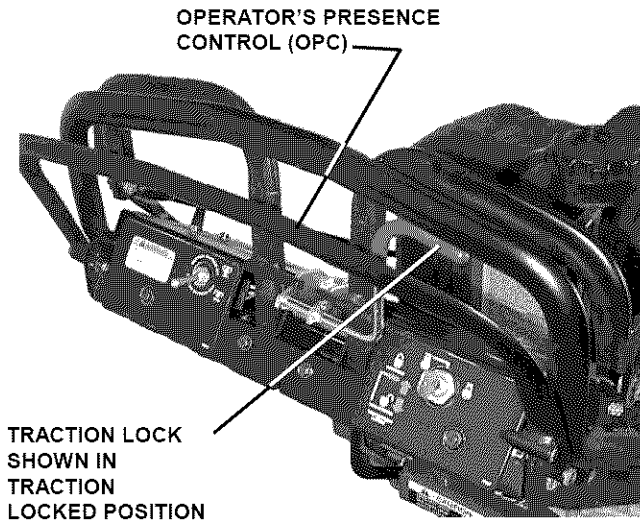

FIGURE 3.5
8. Depress Operator's Presence Control (OPC) against handle. See Figure 3.5.